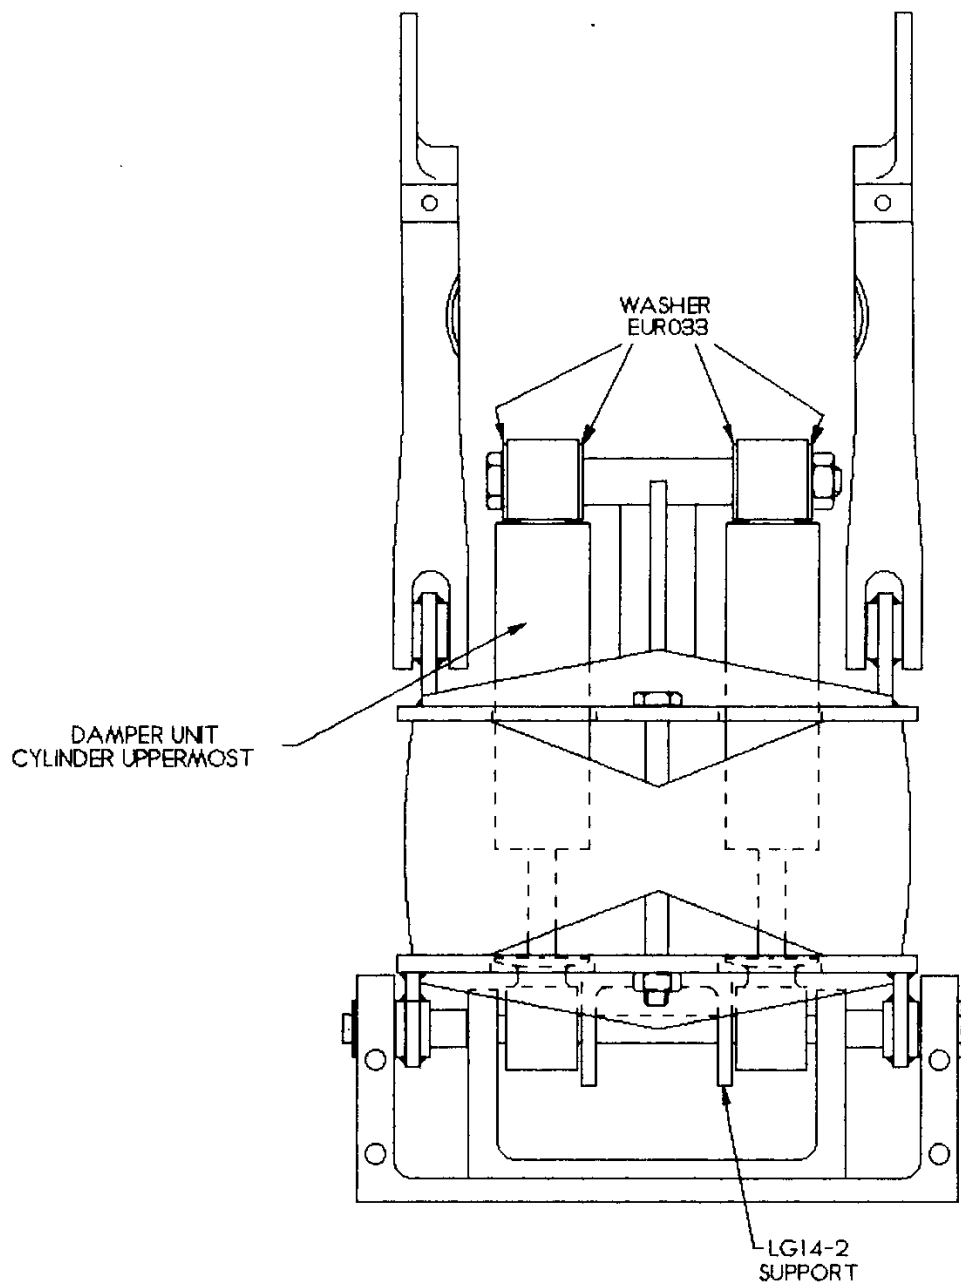

Fig 2. Assembly of spring/damper unit.
3. . Using the long pin LG04 as a mandrel, bond the aluminium channel spacer LG14-2 into position, as shown in figure 2, with Redux 420, and allow to cure.
7. Mount the two dampers, cylinder side uppermost, to the new upper reaction plate, using the 3/8" x 5" bolt and Nyloc nut, with EUR 033 washers between the damper eye ends and the mounting pillar, and under the bolt head and under the Nyloc nut, as shown in figure 2. Saw off the end of the bolt to leave the minimum safety threads showing - this is to ensure clearance between the bolt and the inside of the retraction lever.
9. Fit the modified rubber block and the new lower reaction plate to the upper reaction plate, and fit the existing M8 bolts in the new position as shown in figure 2. Pre-compress the assembly to 5 1/4" +/- 1/16" (133mm +/- 1.5mm) between mounting hole centres.